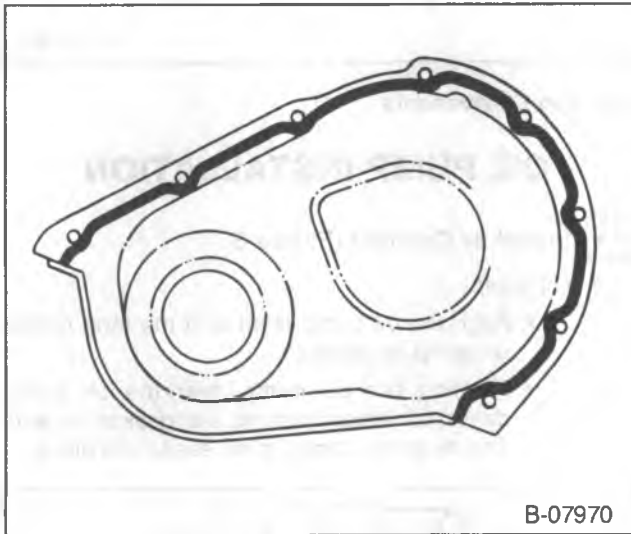

Figure 45—Applying RTV to the Timing Gear Cover
- Apply a 6 mm ($\frac{1}{4}$ -inch) by 3 mm ($\frac{1}{8}$ -inch) thick bead of RTV to the timing gear cover at the block sealing surface. Refer to figure 45.